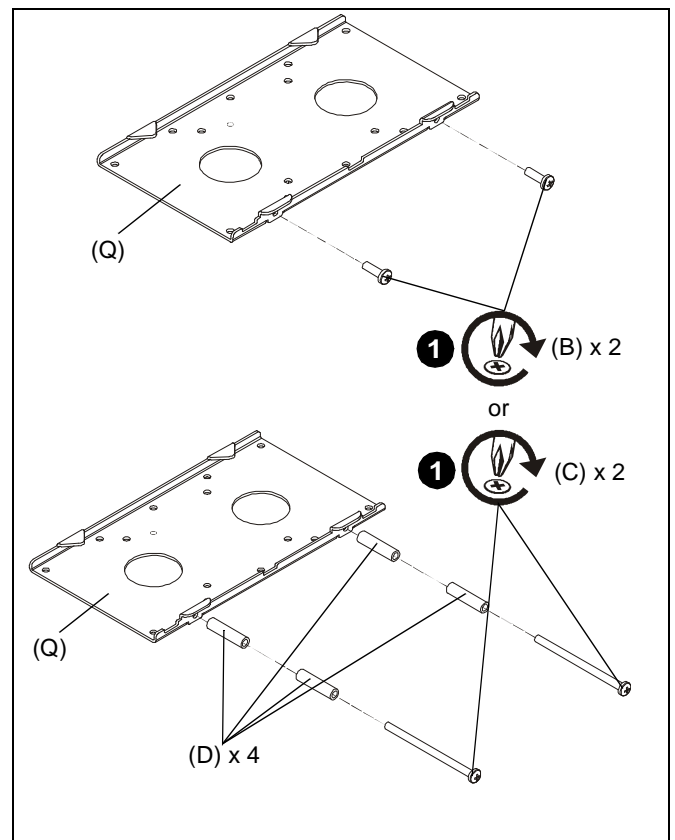

Figure 7
1. Install either two M5x16mm Phillips head cap screws (B) or two M5x80mm Phillips head cap screws (C) to bottom holes on front plate (Q) depending on screen size. If installing M5x80mm screws (C), install each through two 1 1/4" spacers (D). (See Figure 7)